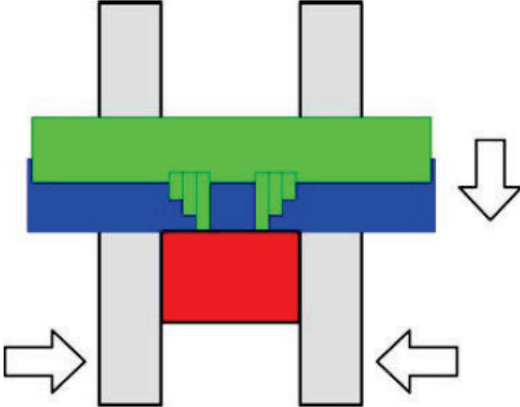

Figure 5 Lift starts descending.
4. After the squeezing plates reach the position to hold the tray, the lift starts descending (Figure 5).
5. After the lift started descending, the left and right squeezing plates and rear squeezing squeeze in (Figure 5)